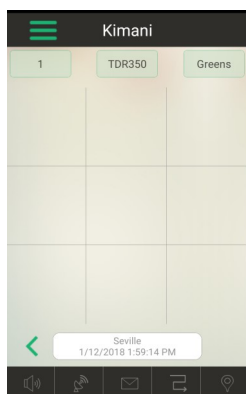
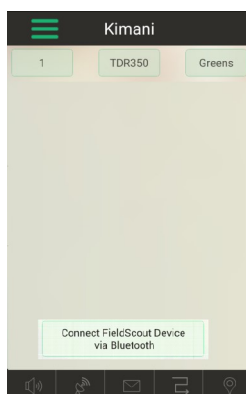

Figure 2a. Main screen
Figure 2b. Bluetooth Connect button (grid)
5. a. For Grid mode, the **Main Grid** screen (Fig. 2a) will appear. Confirm that the meter you are using appears at the top of the screen. If not, a new session must be created. Tap any of the zones to bring up the **Take Reading** screen (Fig. 2b).